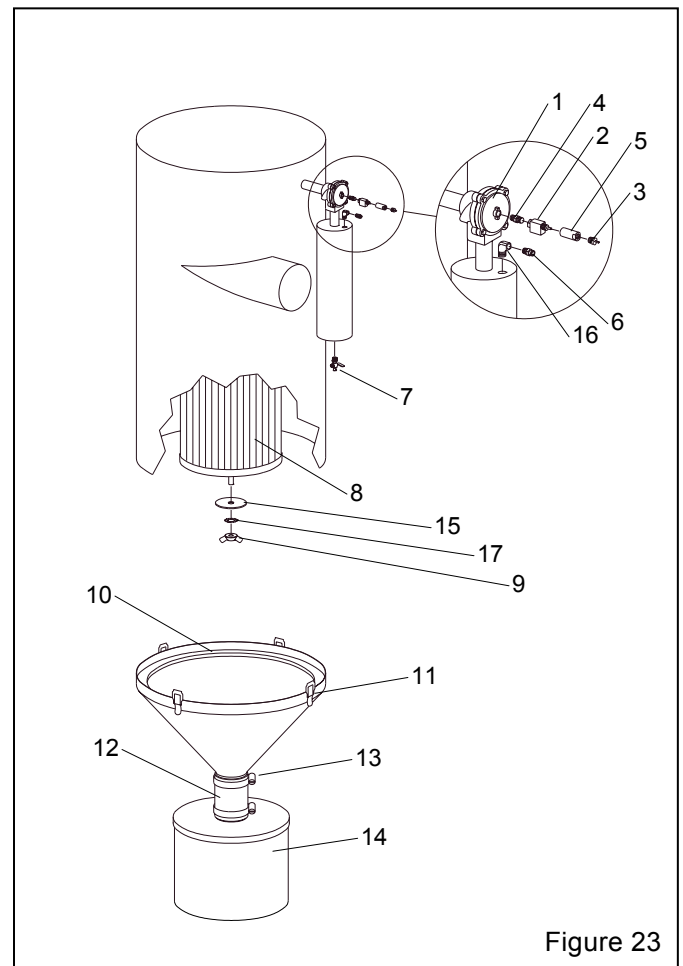

Figure 23
**9.10 Dust Collector, Figure 23**